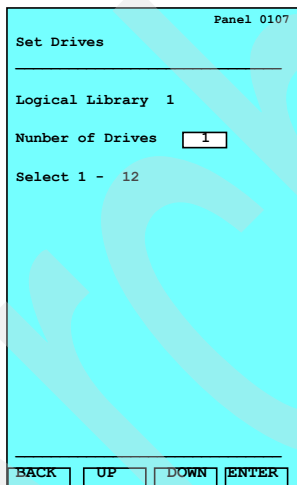

Figure 2-44 IBM TS3500 operator panel: Set Drives
10. Specify the quantity of storage slots that you want in the logical library by clicking **UP** or **DOWN** to increment or decrement the value. When the desired quantity of storage slots displays, click **ENTER**. The Set Drives panel displays (Figure 2-44).